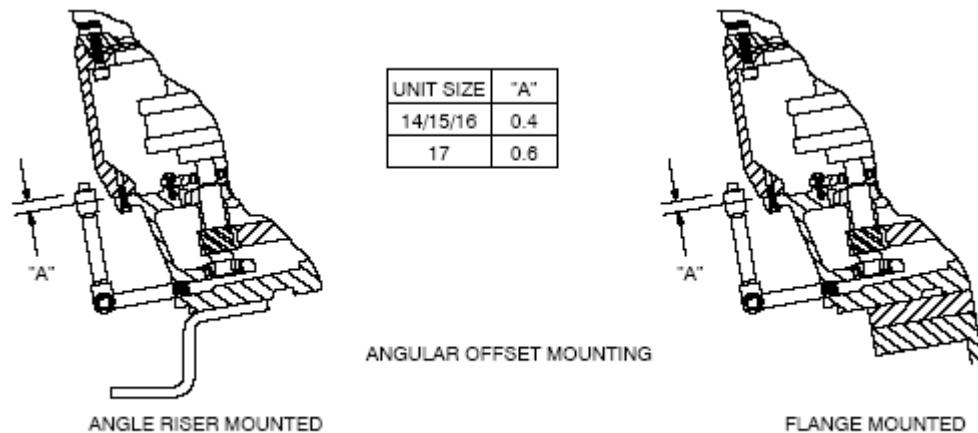

FIGURE 2
- b. Mixers with angular offset mounting are furnished with a stand pipe type arrangement for oil measurement. The stand pipe/oil drain assembly must be adjusted to maintain the elevation of the stand pipe in respect to the top face of the gear drive (see Figure 2), using the values in the table. Once this has been accomplished, fill the stand pipe to the top and replace the oil plug. The oil level should be maintained within $1/8$ " of the top of the stand pipe.